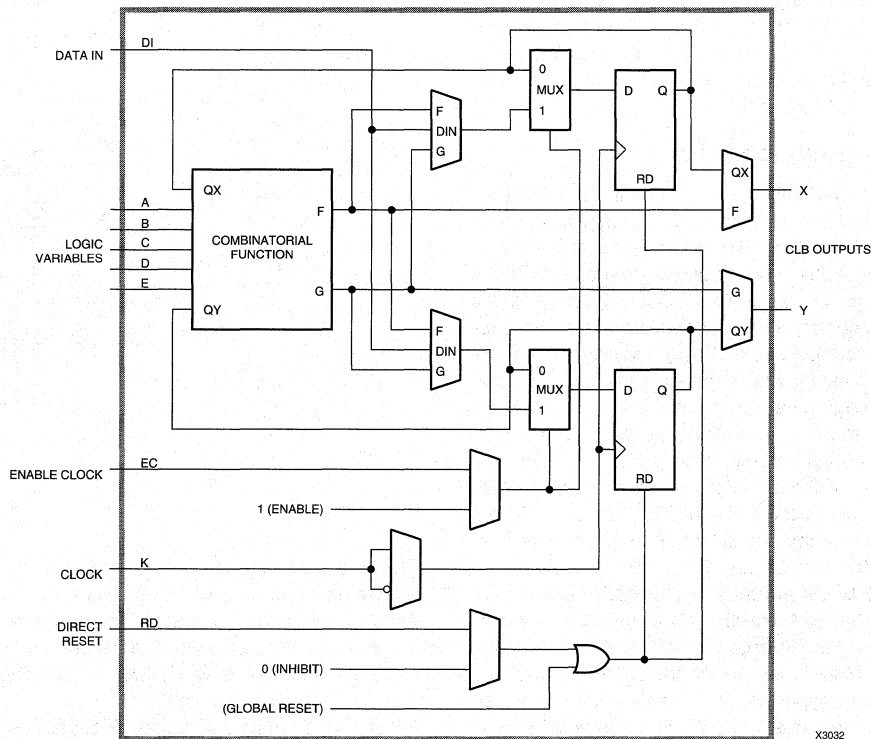

Figure 5: Configurable Logic Block.
Each CLB has a combinatorial logic section, two flip-flops, and an internal control section. See Figure 5. There are five logic inputs (A, B, C, D and E); a common clock input (K); an asynchronous direct RESET input (RD); and an enable clock (EC). All may be driven from the interconnect